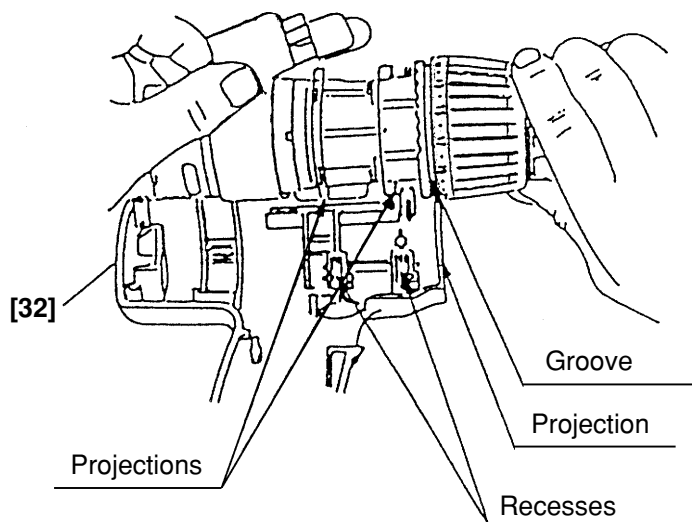

Fig. 15
- (b) Install the assembly reassembled in step (3) into Housing (A). (B) Set **[32]**. Note that the projections on the Front Case **[9]** and the Motor Spacer **[25]** are engaged in the recesses in Housing (A). (B) Set **[32]**, and the projection on Housing (A). (B) Set **[32]** is engaged in the groove of the Cap **[4]**. (See Fig. 15.)